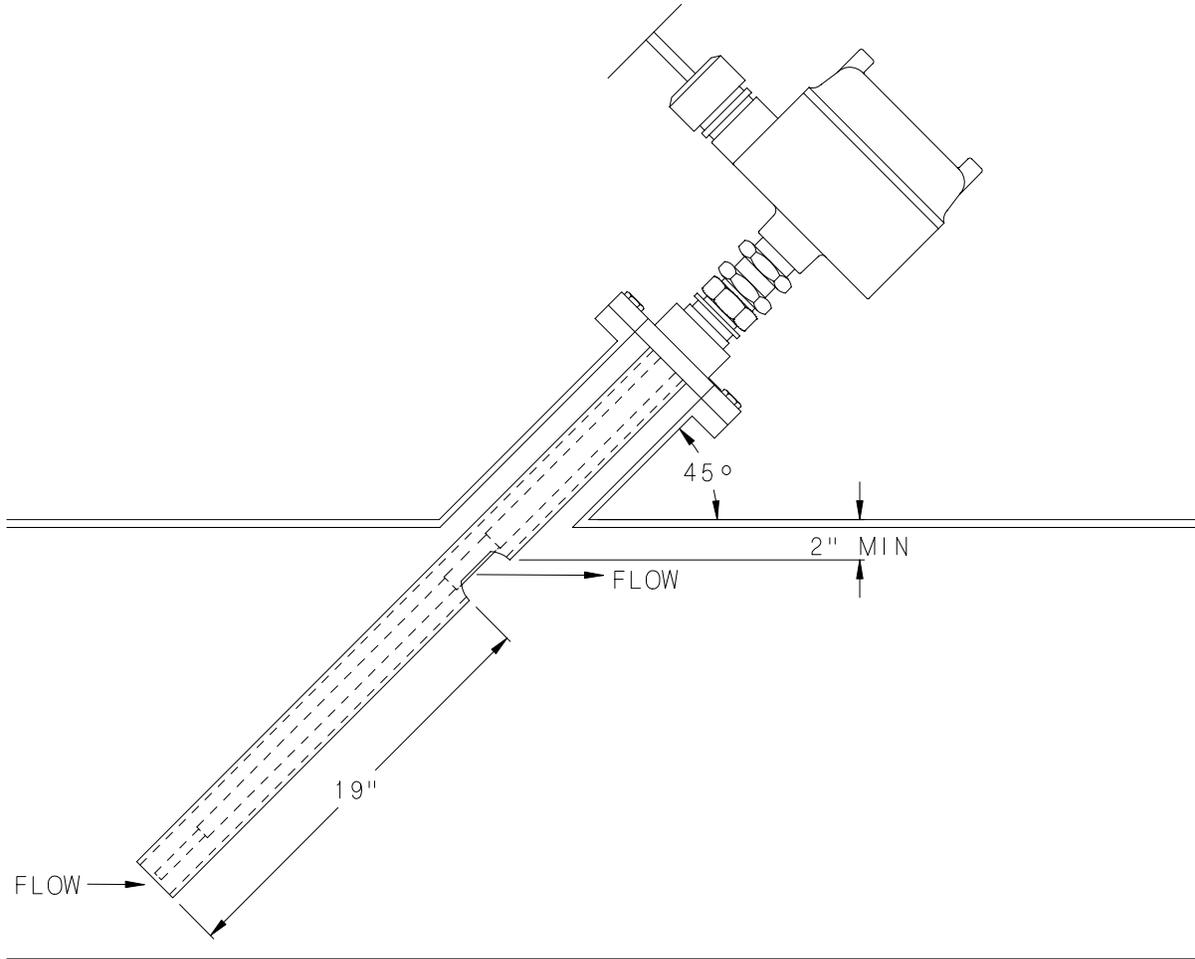

Figure 2-8
- f. For large pipes with no bends (18 inch and larger), it is possible to mount the sensing element at a 45 degree angle to provide sufficient flow through the shield of the sensing element. See Figure 2-8.